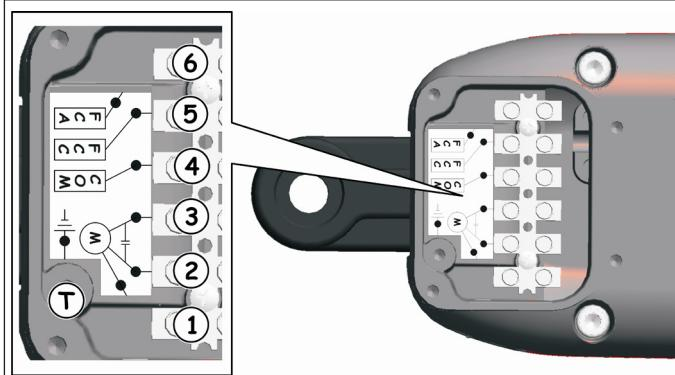

Fig. 15
3. Connect the motor by referring to the table of Fig. 15.